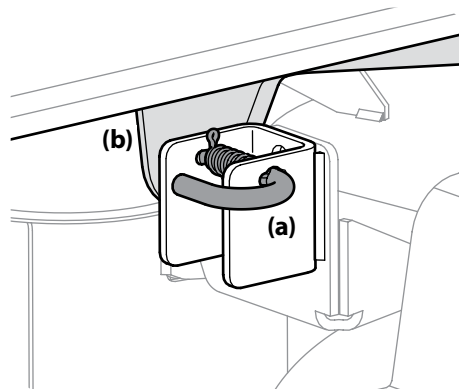

Figure 4-17
10. Locate the LH and RH deck release pins (a) on each side of the deck. Pull the deck release pins (a) outward and release the deck from the LH and RH deck lift arms (b). See Figure 4-17.
- Pull the deck release pins outward and maneuver the deck as necessary to align the holes in the deck lift arms with the pins. Refer to Figure 4-17.